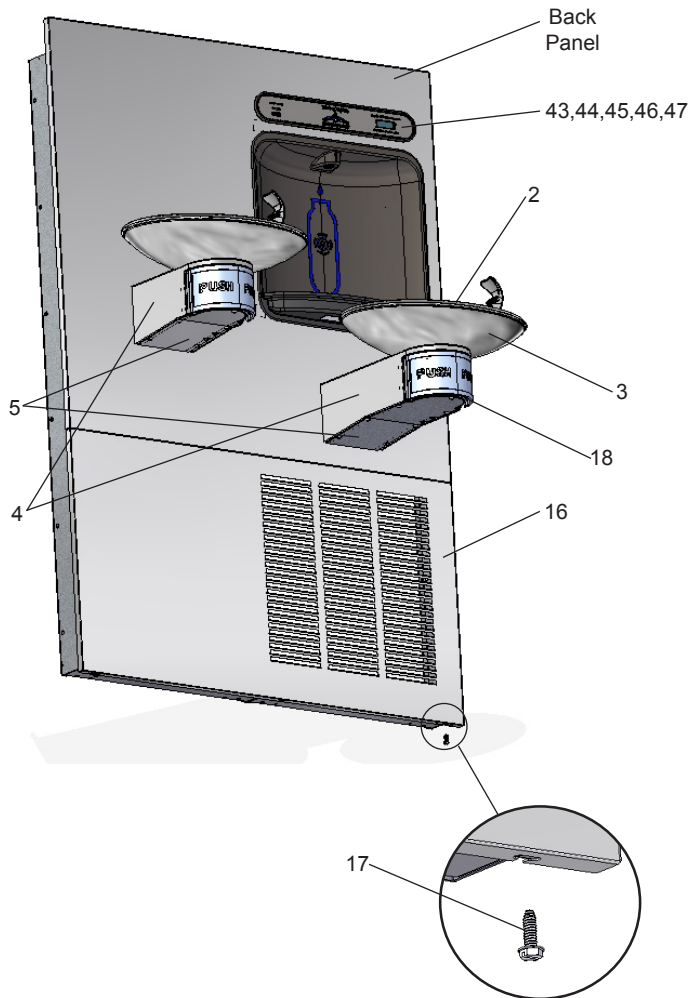

Figure 5 - Lower Panel Installation
16. **Install** the bottom panel, tighten screws (Fig 5).